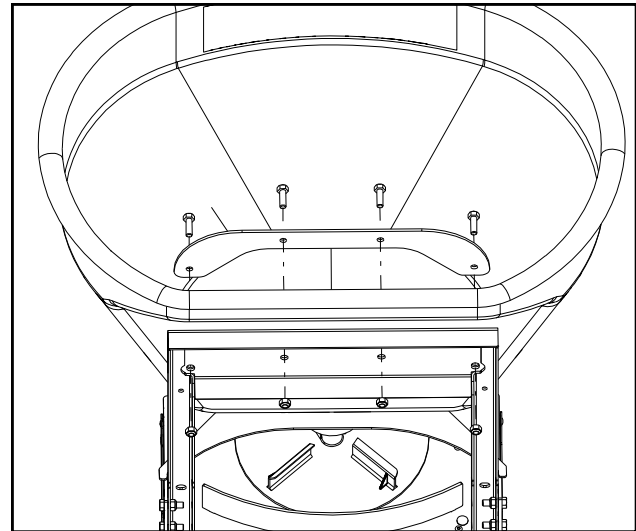

Fig 1.5
- 1.5 Fasten the hopper to the support frame by running the four supplied 5/16" x 1" cap screws through the backing plate, hopper and support frame from the inside of the hopper. Attach using the four supplied 5/16" lock nuts. Tighten the fasteners according to the torque chart. As shown in figure 1.5.